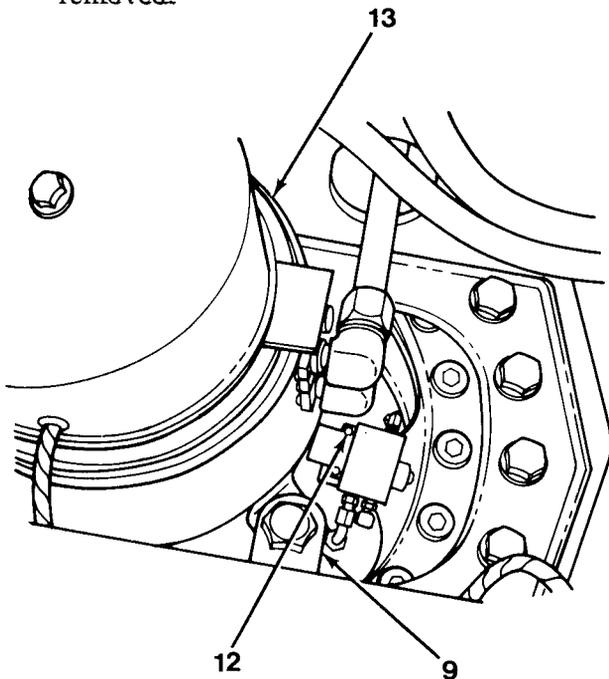
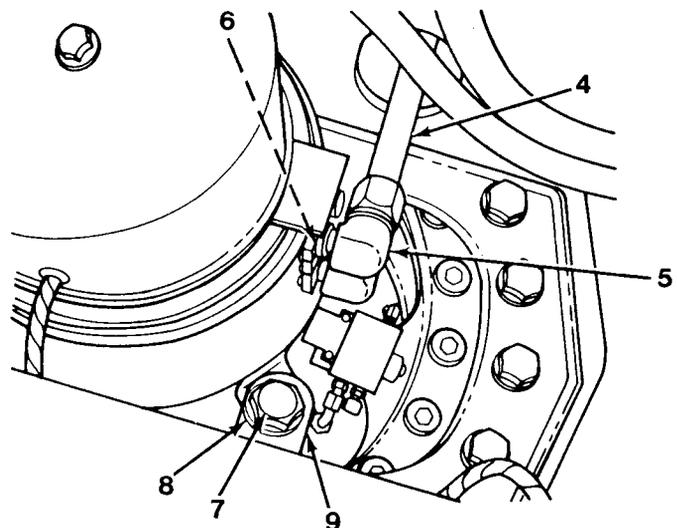

Figure 13-3
Figure 13-2
12. Loosen axle lockout valve mounting nuts (12, Figure 13-3).
13. Using a hoist and sling, remove manifold (13) by lifting and turning to clear stop pin ear (9) on upperstructure as manifold is removed.
2. Using hoist and sling, install rotary manifold (13) by lifting manifold (13) over opening in carrier and lowering straight down and turning manifold to avoid stop pin ear (9, Figure 13-3) located on upperstructure.
3. Align ear on side of manifold to hole in stop pin ear (9).
4. Install lockwasher (8) and stop pin (7, Figure 13-2) into manifold.
6. Install six O-rings (6) and elbows (5, Figure 13-2) to side of manifold, as recorded.
7. Connect six hoses (4) to side of manifold.